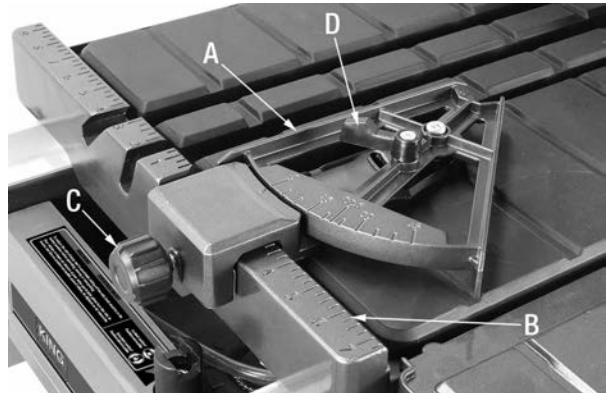

FIGURE 12
- 1) This Tile saw comes with a miter gauge (A) Fig.12 which can be used on either the right or left side of the blade. The miter gauge gets installed over the sliding table fence (B).
- 2) Position the miter gauge over the sliding table fence as shown. Tighten lock knob (C) Fig.12 to secure the miter gauge in position.
- 3) To adjust the angle of the miter gauge, loosen lever (D), set the desired angle and retighten lever (D).